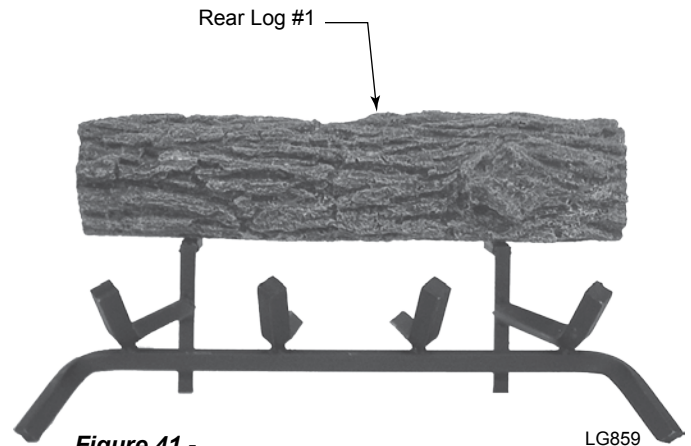

Figure 41 - Place Rear Log on Grate Bars
1. Place Back Log #2 on grate bars on back of grate. *Figure 41*